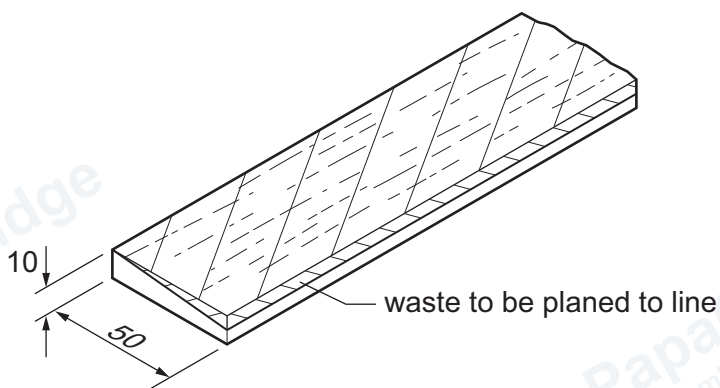

Figure 8.1
- 8 Figure 8.1 shows part of a 400 mm length of hardwood with waste wood marked out. A plane will be used to remove the waste wood. The length of hardwood is too thin to be held in a vice while it is planed.